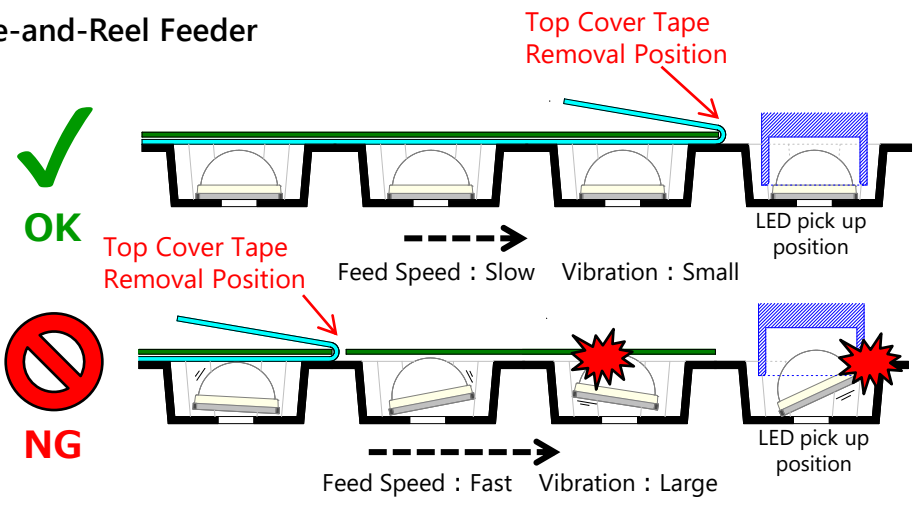

Figure 5. Examples of Correct/Incorrect Top Cover Tape Removal Positions
3. When removing the top cover tape it should be done adjacent to the target LED (See Figure 5). Otherwise, it may shake the embossed carrier tape and cause the LED to move within the tape pocket. This may cause